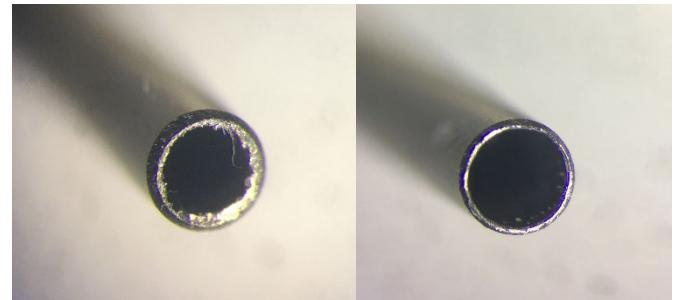

Figure 28 Lick spout end under a microscope. Left: before filing off burrs and sharp edges. Right: After filing
- Use a fine file to smooth the ends of the tube. Any burrs or sharp edges may cut the mouse's tongue. Checking the end for sharp parts under a microscope is recommended. See Figure 28 for the results of this step.